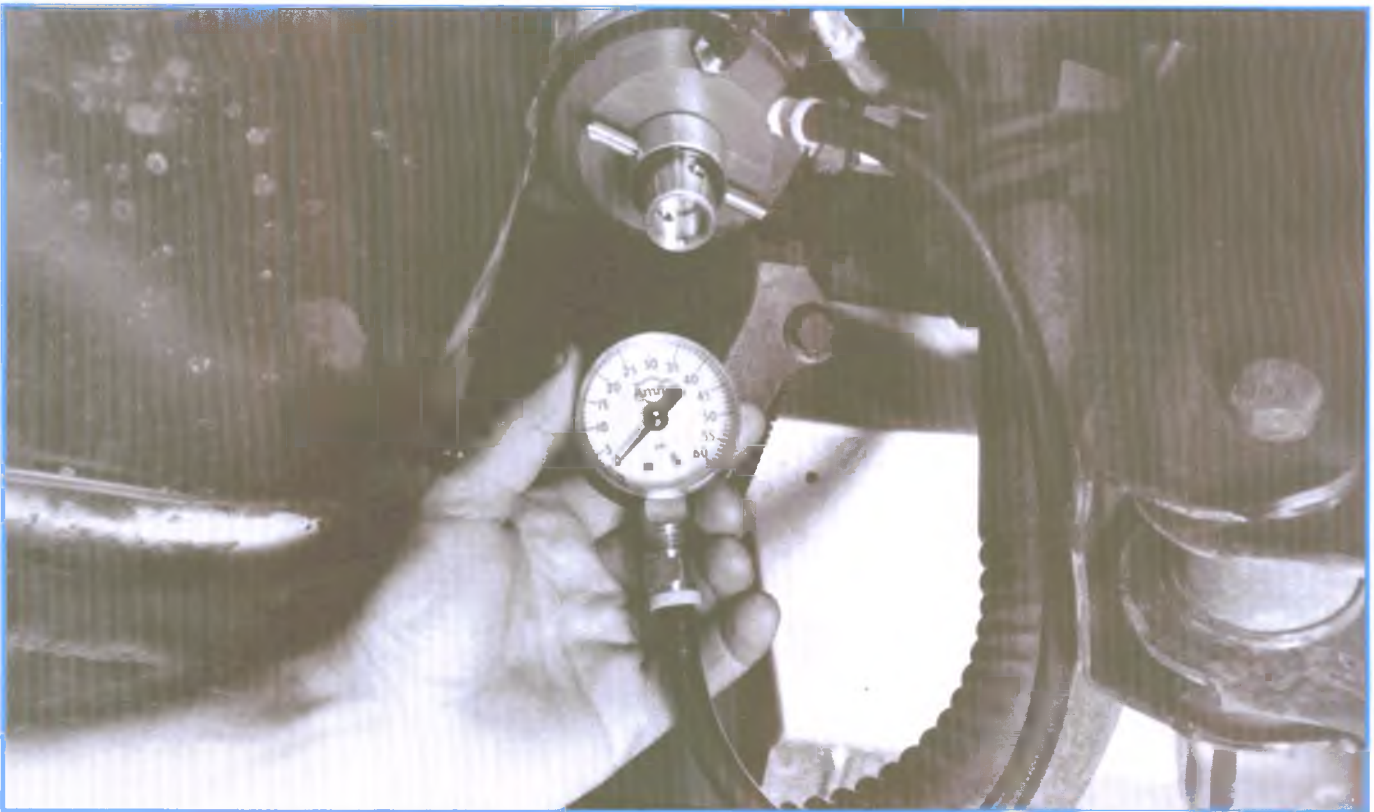

Figure 3-18, Oil Pressure Check (2)
7. Check the oil pressure between the pump and the filter, using tool J 25087-C (see Figure 3-18):